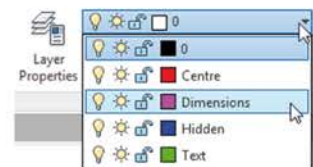

Fig. 7.4 Making the Dimensions layer current from the Home/Layers panel
- In the Home/Layers panel, *click* in the 0 field and then the popup menu showing all the layers appears. *Click* again in the field showing the name of the required layer. Fig. 7.4 shows the Dimensions layer being made current.